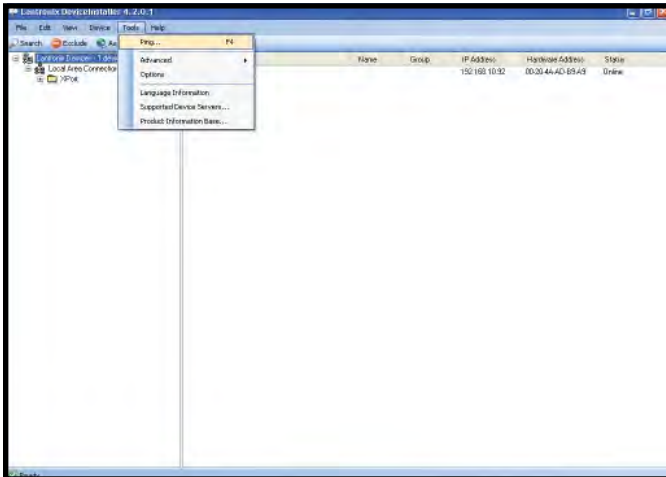

Figure 10. Selecting the Ping command
1. Verify proper communication to the Ethernet Board by clicking “Tools” then “Ping” located at the top of the window (see Figure 10).